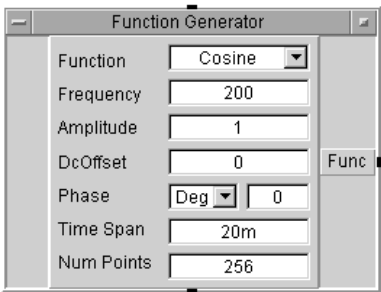

Figure 6 Adding a Function Generator Object
- 2 Move the **Function Generator** to the center of the work area, and click to place the object. The **Function Generator** appears as shown in Figure 6.